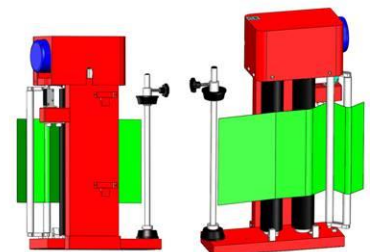

Fig. 3-3
Step 4 - Push down handle "E" to open carriage door. Then press the film through in the direction of the arrow and close the door (do not slam). Pass the film behind and around the first roller and then between the first and second roller. (See Fig. 3-3)